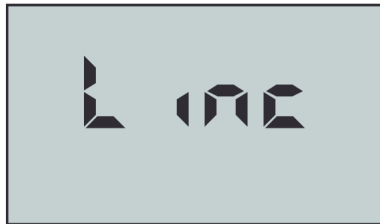

Figure 27
3. Press (MR) arrow key until the menu “Linc” appears (see Figure 27).
2. Press $\left(\frac{\text{MR}}{\blacktriangledown}\right)$ key until the menu **"Linc"** appears (see Figure 27).